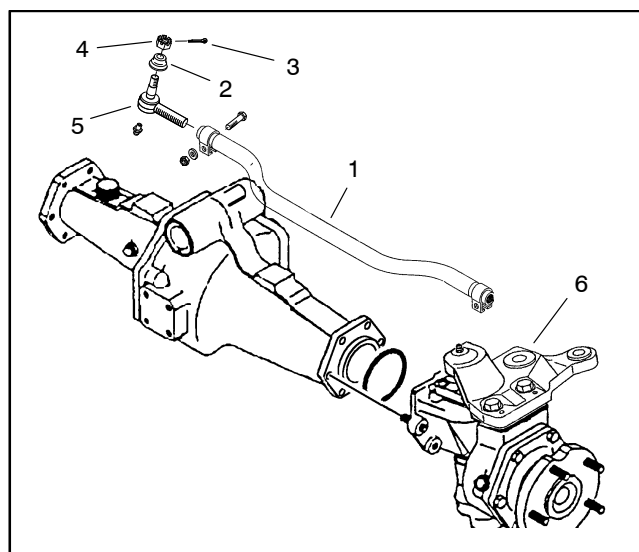

Figure 14
7. Remove lock nut (item 39) and thrust washer (item 40) from rear axle pivot pin.
8. Support rear axle to prevent it from falling. Remove pivot pin from frame and rear axle. Lower rear axle from machine. Note location of thrust washer (item 42) on both ends of axle mounting boss.
10. If required, remove tie rod ends from steering arms on rear axle (Fig. 14). Remove the cotter pins and castle nuts from the tie rod ball joints. Use a ball joint fork and remove the tie rod ends from the axle steering arms.
2. If removed, install the tie rod to rear axle (Fig. 14). Tighten ball joint castle nuts and install new cotter pins.
4. Install rear axle pivot pin to secure axle to frame. Make sure to install thrust washer (item 42) between axle pivot and frame on both ends of the pivot. With thrust washers installed, there should be from **0.002 to 0.020 inch (0.05 to 0.51 mm)** clearance between rear frame mount and axle mounting boss. Add additional thrust washers if needed to adjust clearance.
5. Install thrust washer (item 40) and lock nut (item 39) onto axle pivot pin. Lock nut should be tightened enough to allow pivot pin to rotate (**70 ft-lb (94 N-m) maximum**).